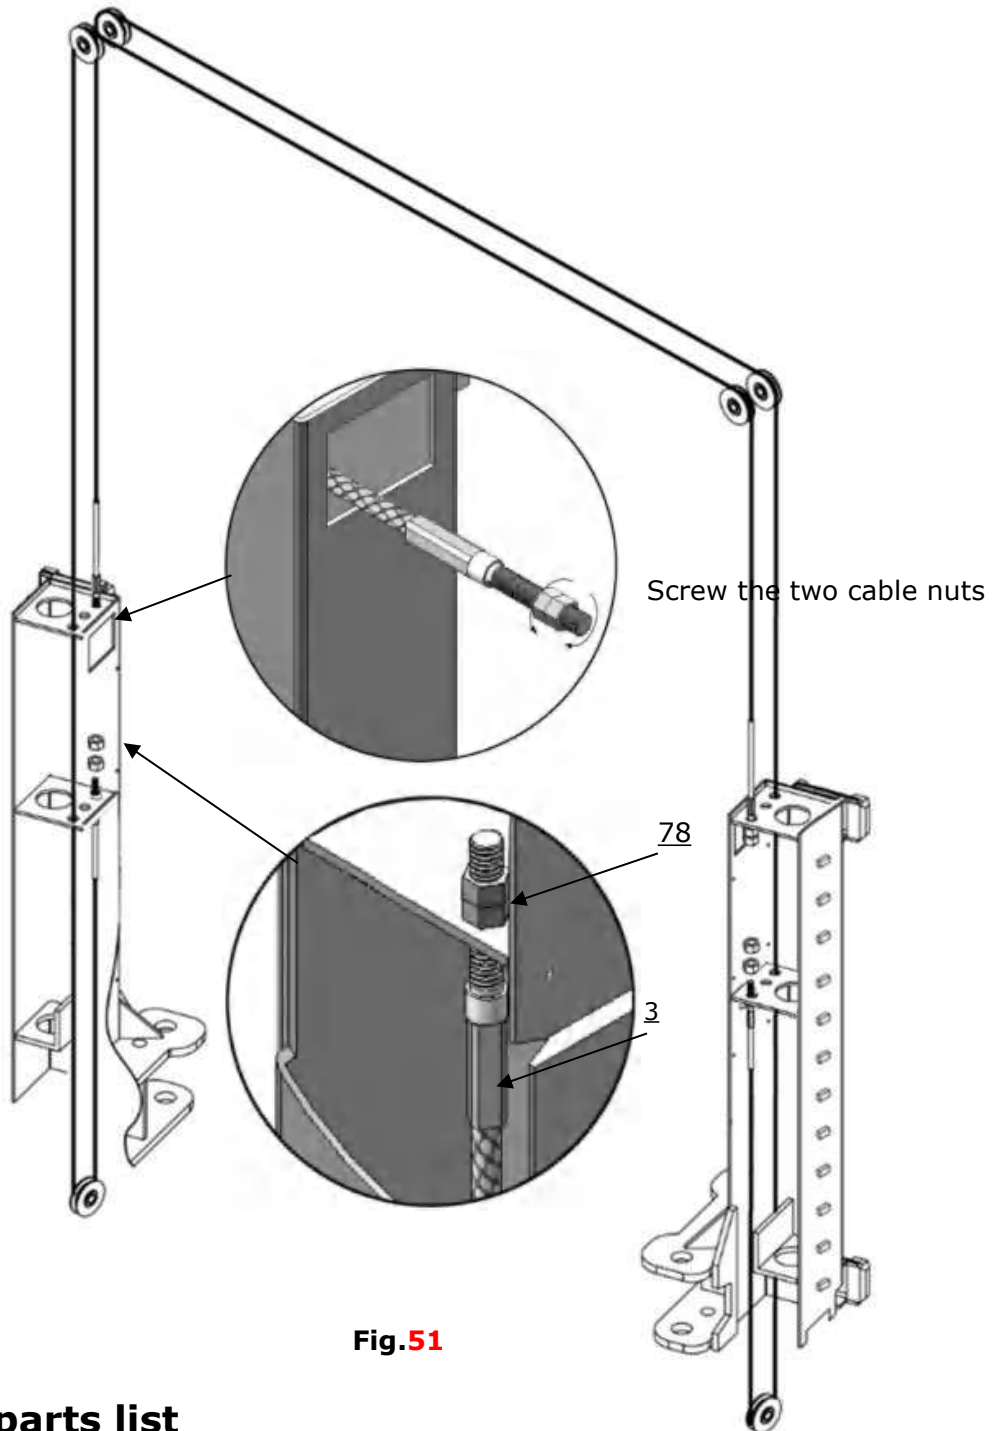

Fig.51
3.3 OHX-10H sync cable assy. connection for high setting (Fig. 51).